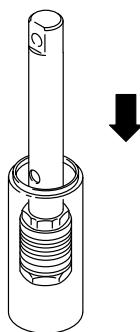

Fig. 32
10. Carefully slide the piston assembly into the top of the sleeve. See Fig. 32.